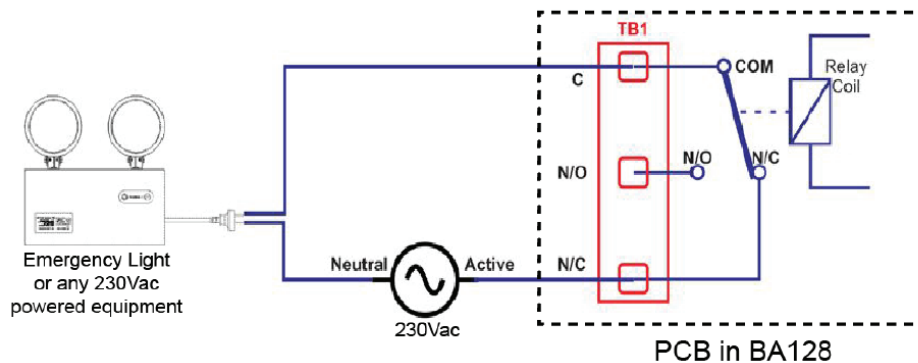
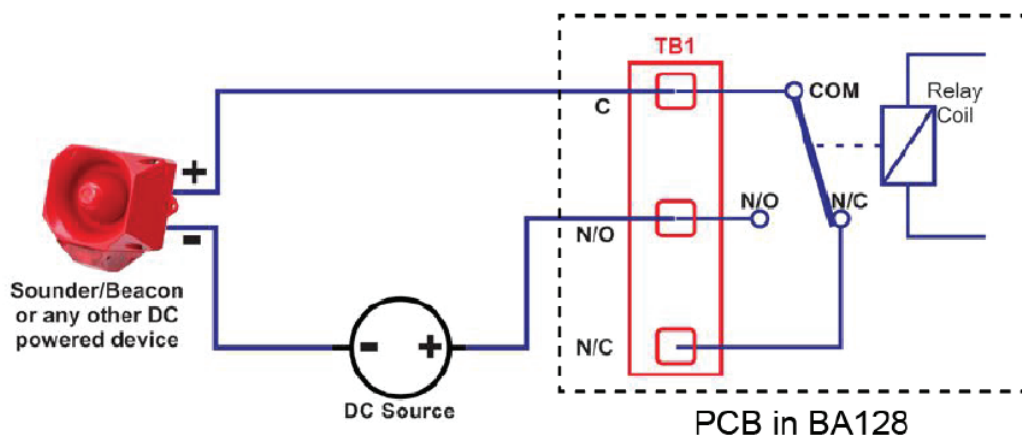

Figure 2 Control of AC Powered Ancillary Devices
Figure 3 Control of DC Powered Ancillary Devices
5. Connect the wires to the required relay contacts for controlling the auxiliary device as shown in the examples in either Figure 2 or Figure 3.
Figure 2 below shows a typical example of how the relay contacts of BA128 can be connected to control external emergency lights via the normally closed contact of the BA128 relay.
Figure 3 below shows a second example to drive external sirens or sounders by connecting a DC source to the normally closed contact of the BA128 relay.